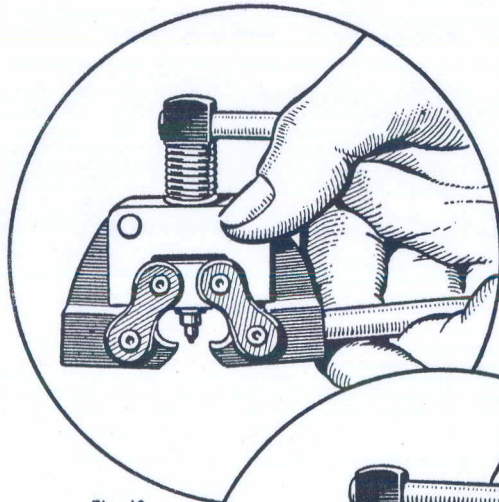

Fig. 13
2. Open the jaws by gripping tommy bar and handle together (see Fig. 13).